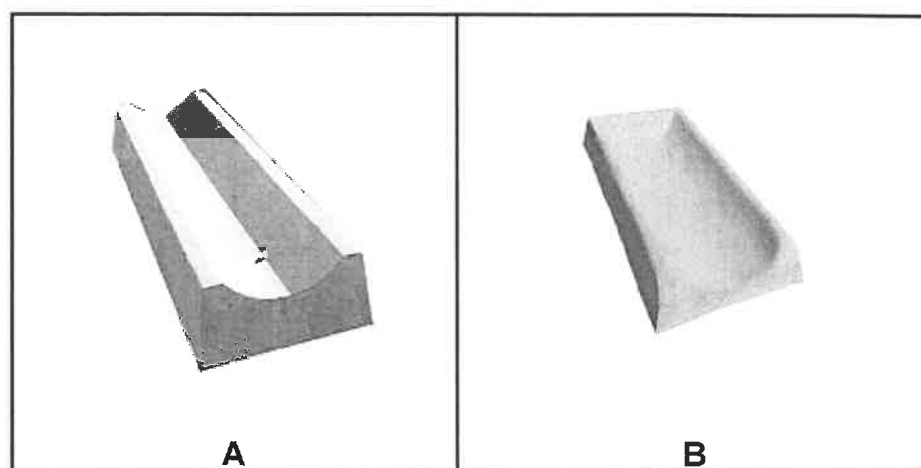

FIGURE 5.1
- 5.1 FIGURE 5.1 below shows a pre-fabricated surface channel **A** and concrete shoe **B**.